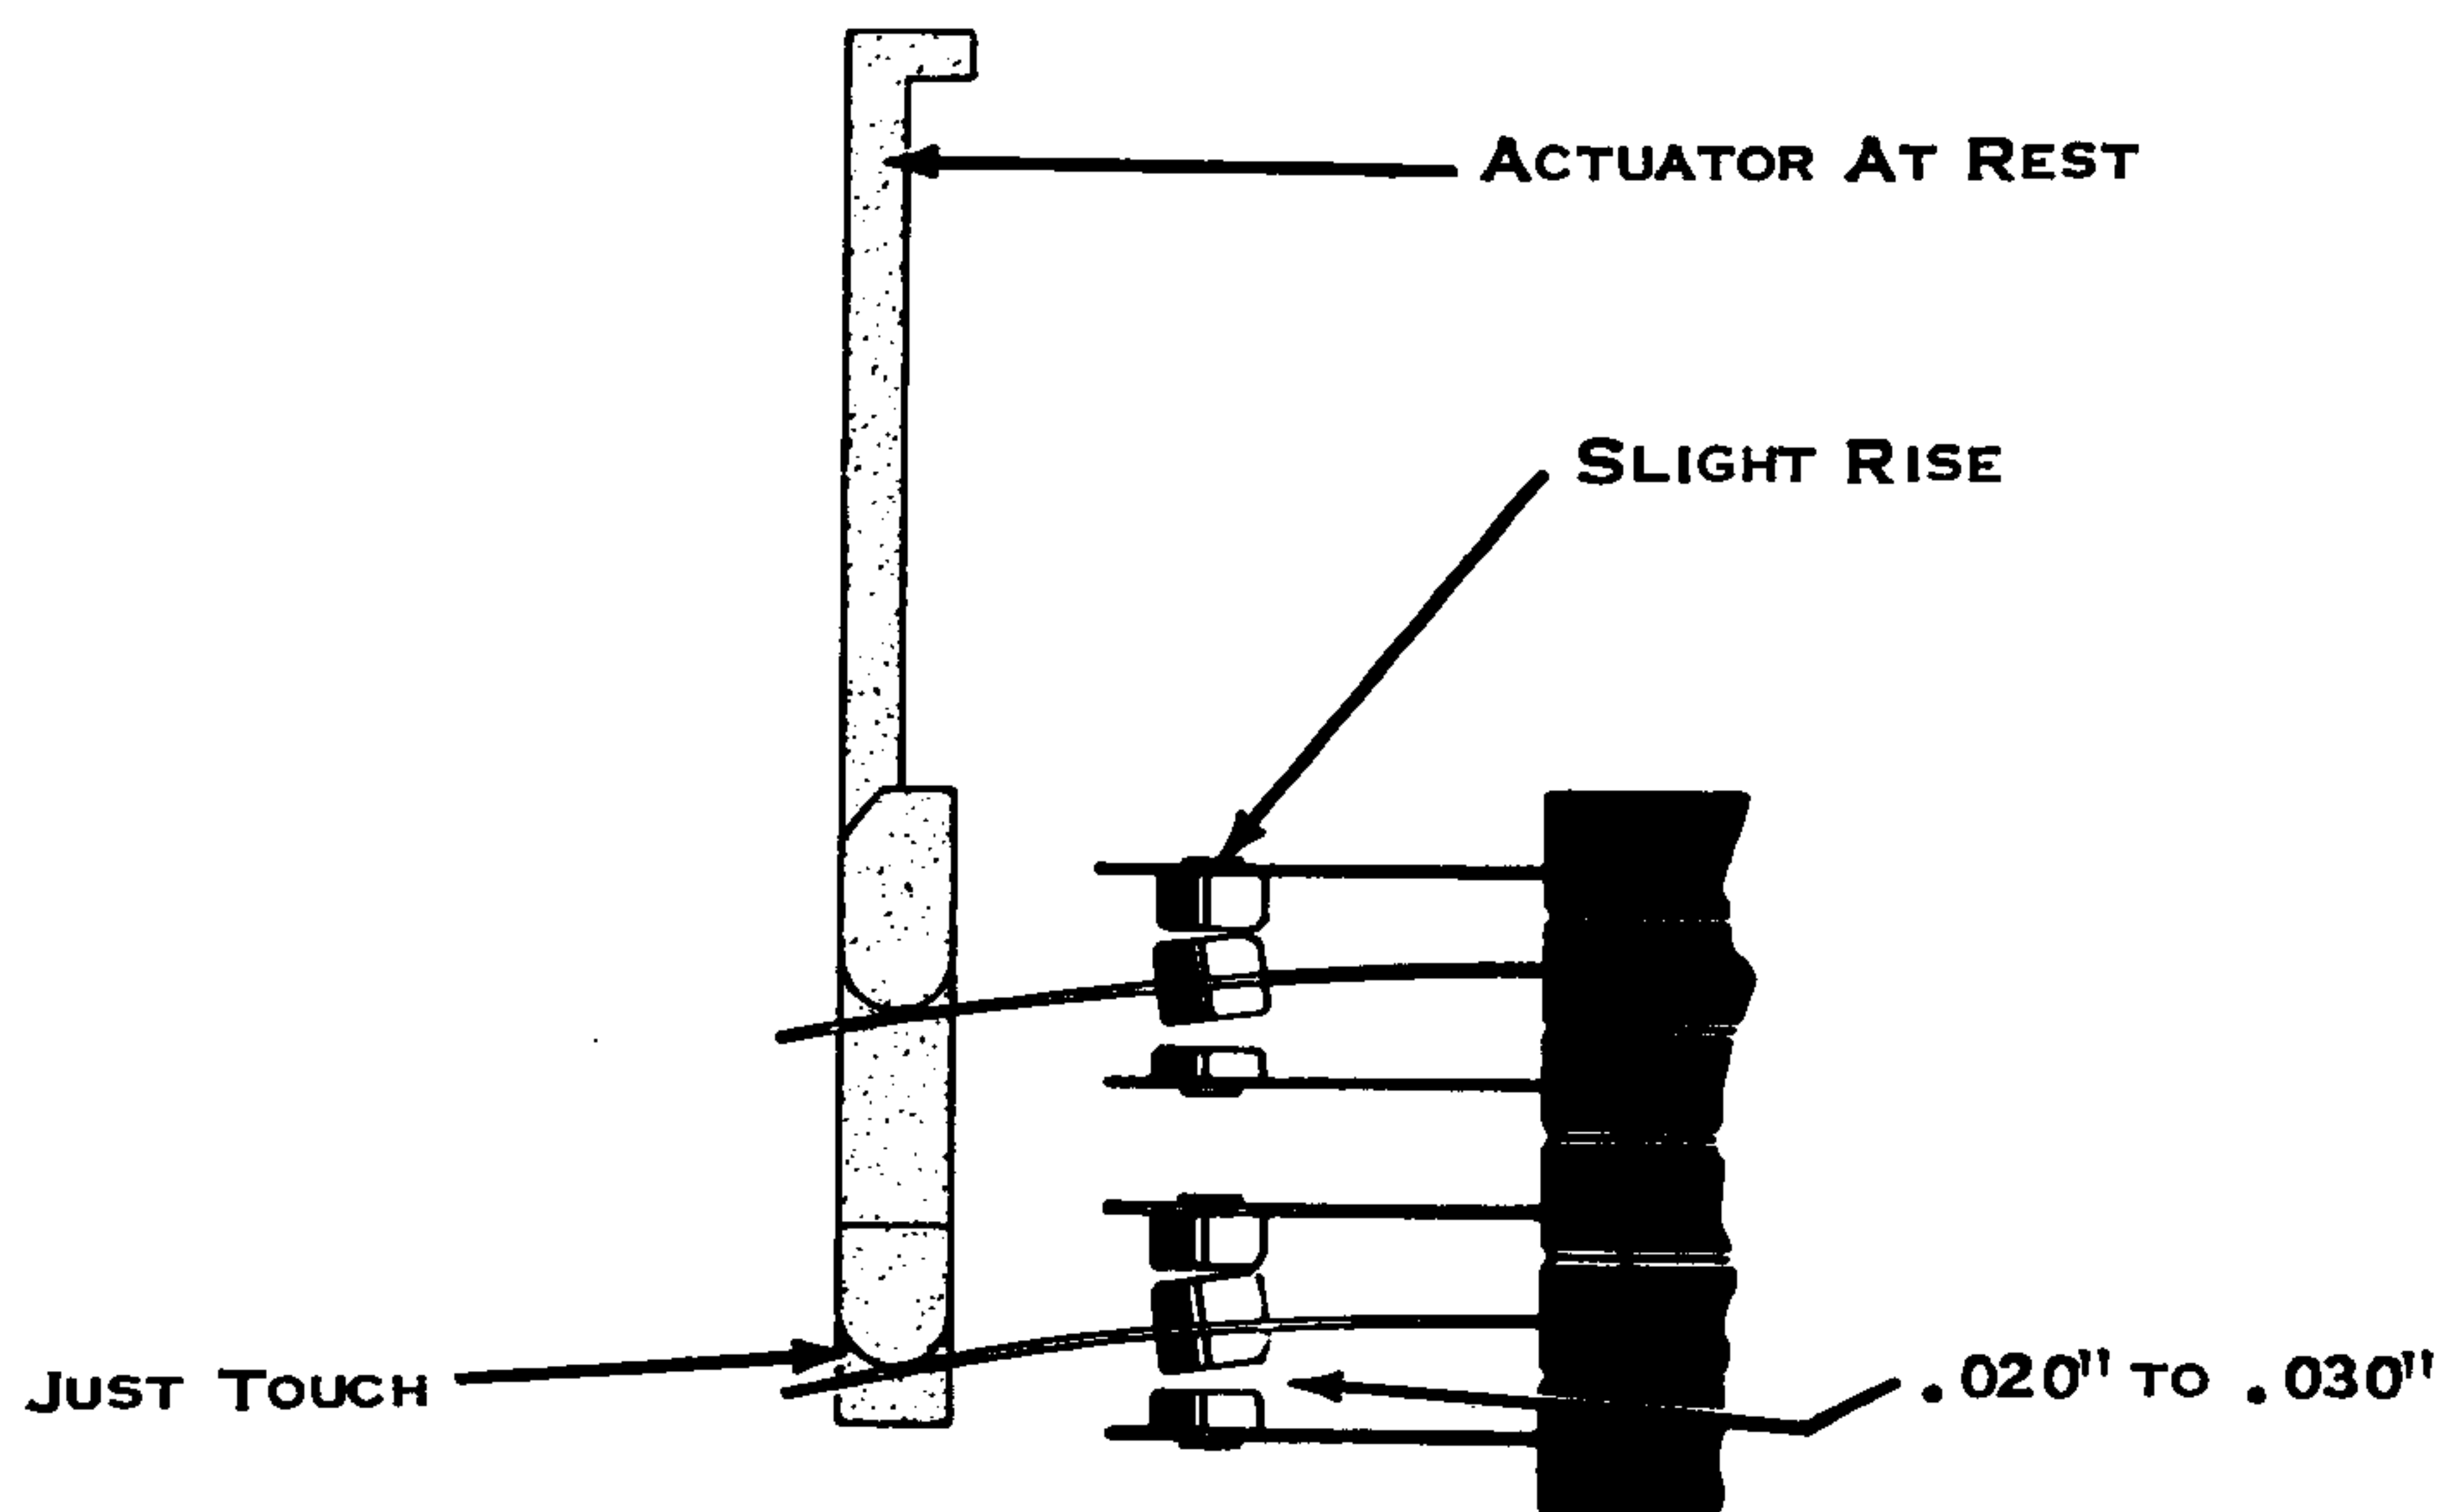

Figure 34. Contact Straps
3. Contact Straps (Fig. 34) - Form (actuators at rest) as required to satisfy the following conditions.